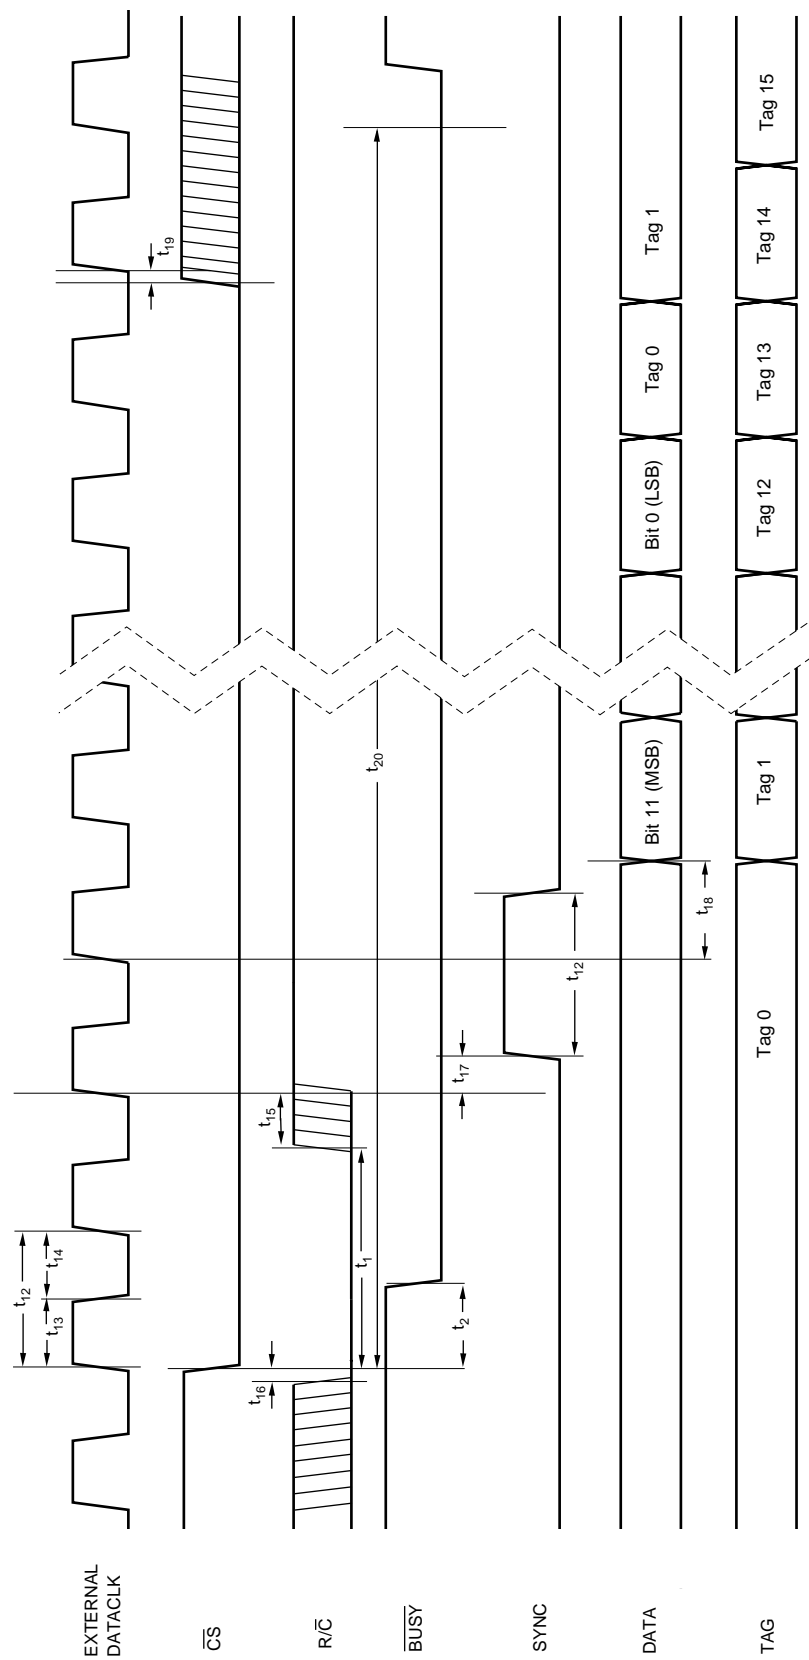

FIGURE 3b. Conversion and Read Timing with External Clock. (EXT/ \overline{INT} Tied HIGH.) Read During Conversion (Previous Conversion Results).
NOTE: (1) See Figure 3b for constraints on previous data valid during conversion.